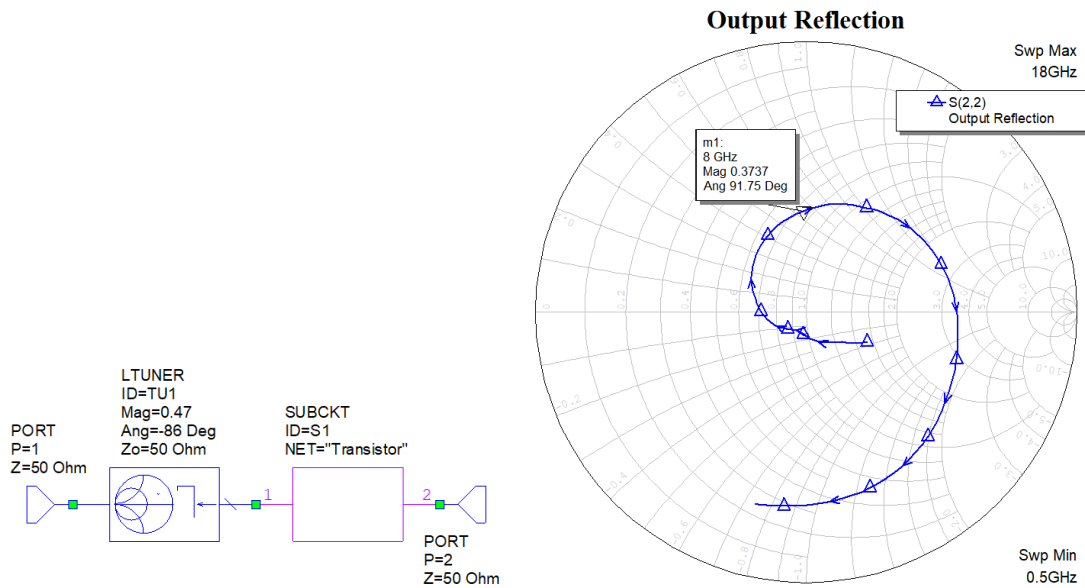

Fig. 3 Optimal input reflection coefficient connected to the transistor and  $S_{22}$  measurement.
- The  $\Gamma_2$  value can be calculated, for example, by using the LTUNER element (General – Passive – Other). Create a new schematic and connect the LTUNER to the input of the transistor and set its reflection coefficient to GMN. The actual  $\Gamma_2$  value is equal to  $S_{22}$  of the schematic shown in Fig. 3.